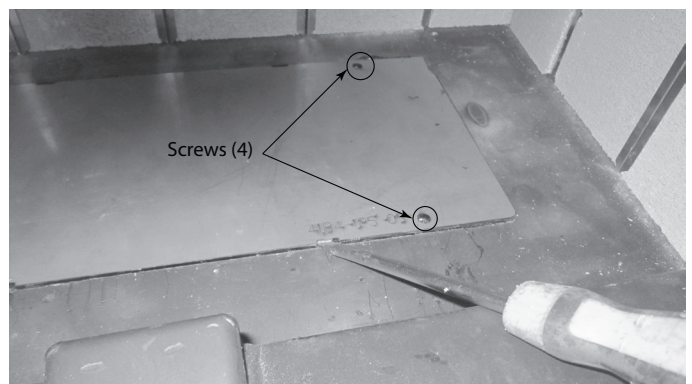

Figure 4.10 Pry Open Access Door
2. Remove the four (4) 5/32 Allen head screws and pry open the access door with a flat blade screwdriver. See Figure 4.10 and remove it.